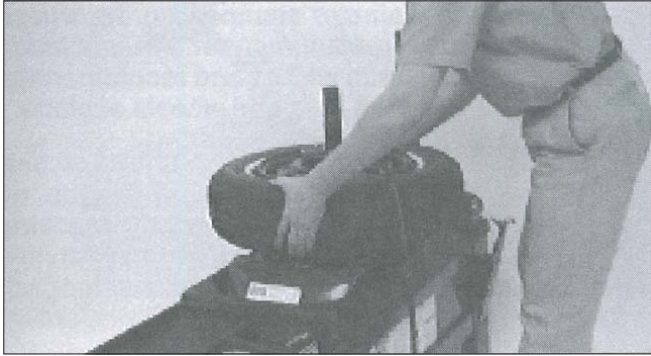

Figure 14 - Bead Sealing
2. Lift tire so that the upper bead is against the edge of the rim to create a seal. Be sure the upper bead is over the bottom of the valve stem (figure 14).
3. Depress the Air-Flate pedal to position 2 and hold for 1 second to begin air flow through the inflation hose, then depress the Air-Flate pedal fully to position 3, hold very briefly (less than 1 full second), and remove foot from the pedal. The blast of air through the inflation hose and the top cover jets will expand the tire and seal the beads (figure 14).